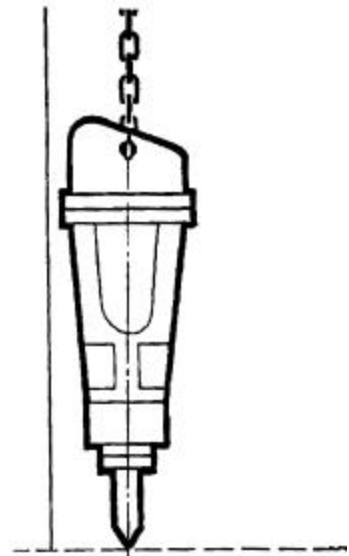

Figure 02-07: Store Breaker in an Upright Position
- m) When the hammer is not in use, it must be kept in a vertical position. (Figure 02-07) This will allow any water or condensation to run off of the piston and prevent rusting which may cause seal failure and leakage.